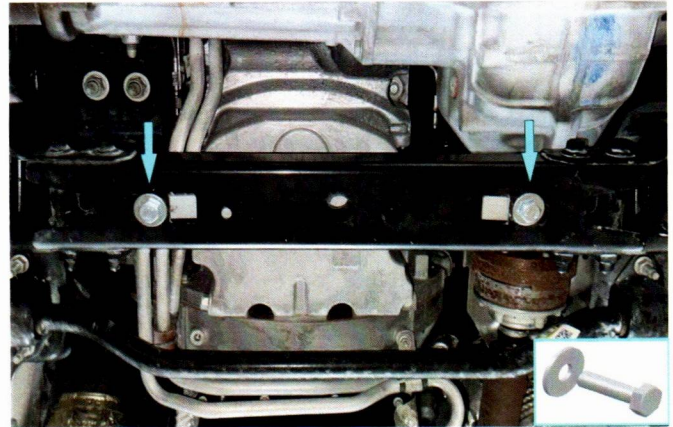

Fig. 2
2. Screw bolts M10x35 with penny washers 10 (item B, C) on 2-3 turns as shown in fig.2.